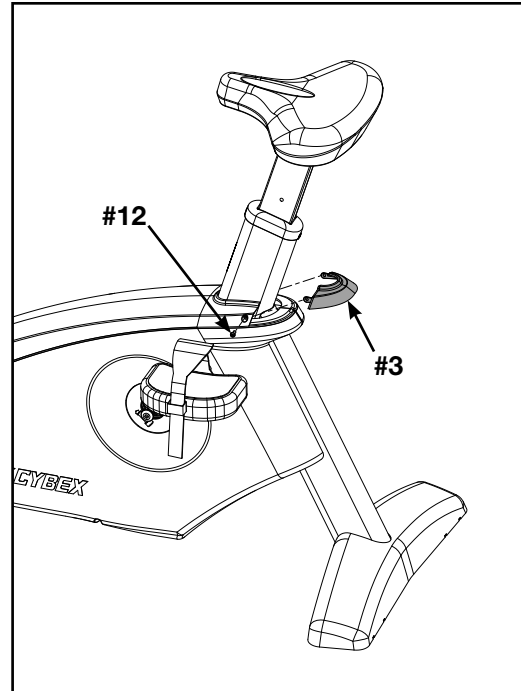

Figure 7
- A.** Locate and place the back cap (#3) into the top cap as shown in Figure 7. **NOTE:** Ensure the back cap is fully inserted into the top cap.
- B.** Using a Phillips screwdriver, secure with two screws 8-16 x .50 (#12). See Figure 7.